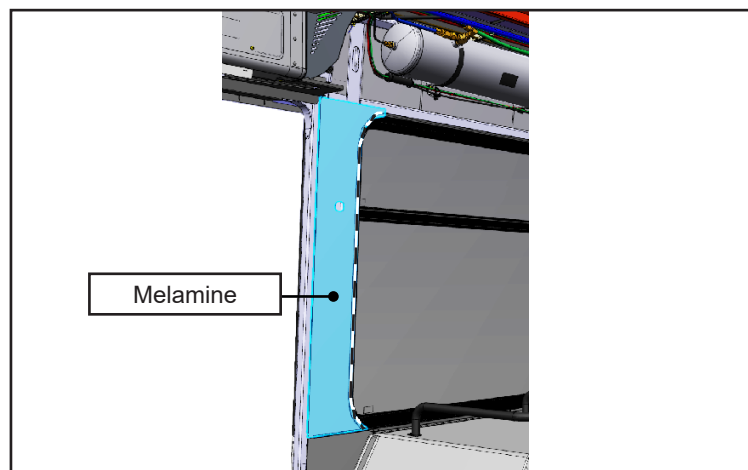

Figure 6 - Remove Melamine
- 1.15. Remove the melamine using a utility knife to cut the double face tape between the wall and the melamine. The melamine will be reinstalled after the repair, be careful not to damage it. See Figure 6.